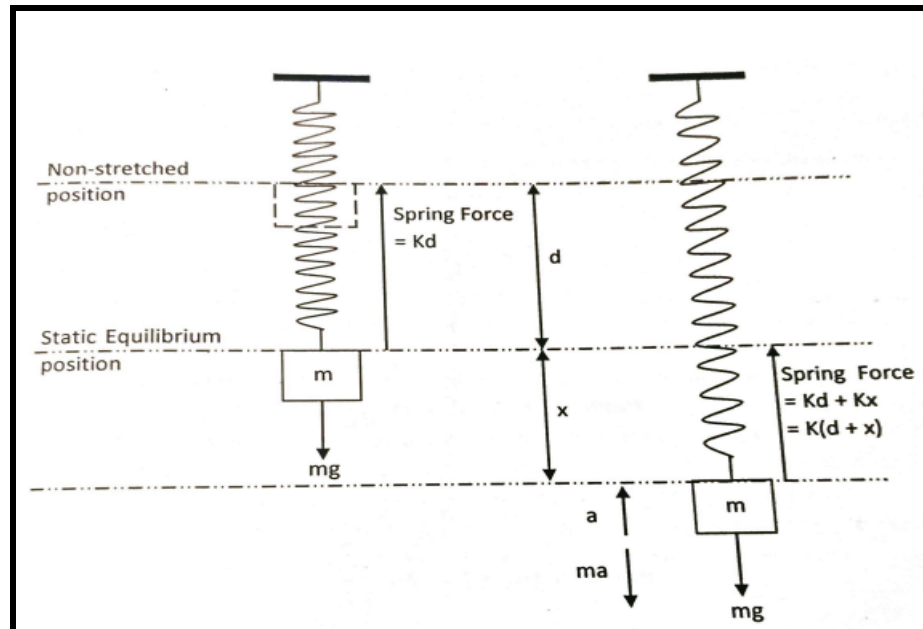

Figure 2b / Rajah 2b
- (b) **Figure 2b** shows the Spring -Mass System and Free-Body Diagram. Explain the following symbols in Simple Harmonic Motion.